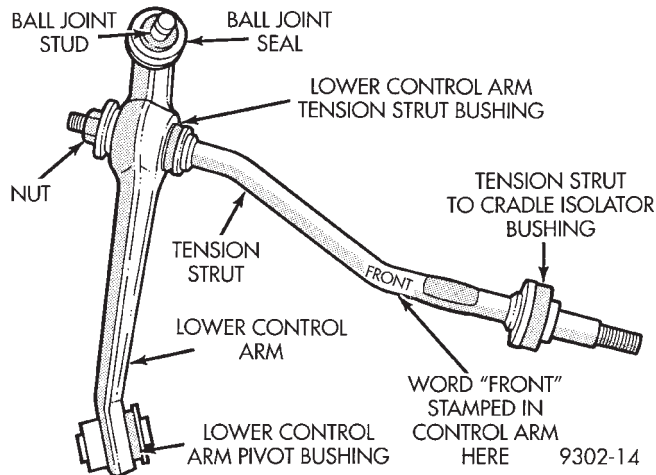

**Fig. 74 Tension Strut Installed In Lower Control Arm**
(4) Install tension strut into the tension strut bushing in lower control arm. Position tension strut in lower control as shown in (Fig. 74) with word **FRONT** stamped in tension strut positioned away from control arm. With an open end wrench on flat of tension strut to stop tension strut from turning. Tighten the **NEW** tension strut to lower control retaining nut to a torque of 130 N·m (95 ft. lbs.).